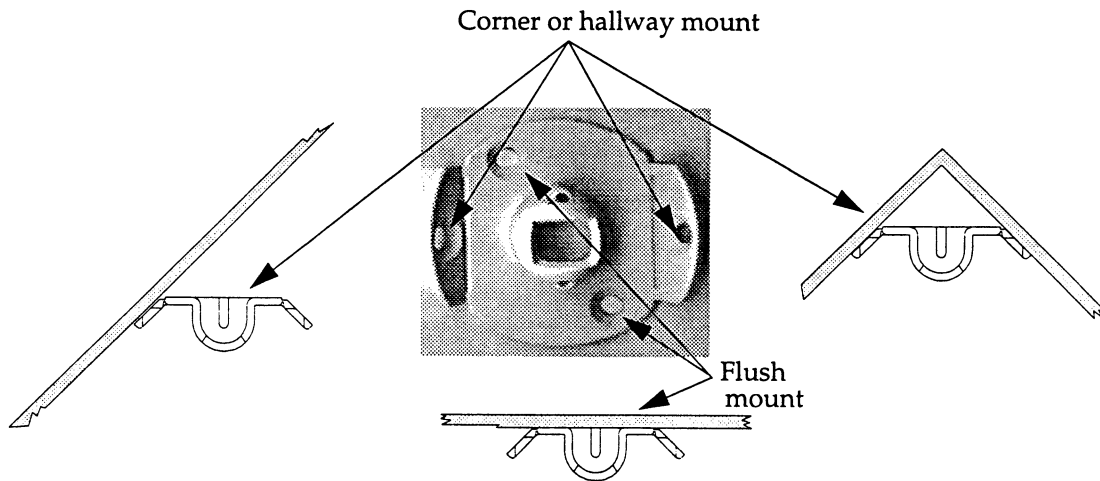

Figure C.4. Swivel Bracket Mounting Configurations
2. Mount swivel bracket with # 6 x 1" wood screw for corner mount, flat surface, or flat surface with a hallway orientation. (See Figure C.4.)